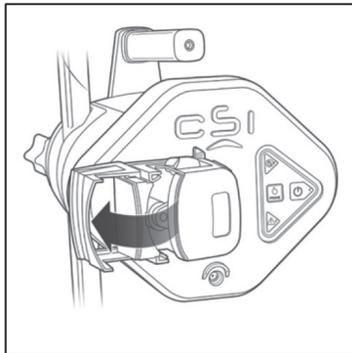

Figure 8. Open pump head cover.
- Open the pump head cover (see Figure 8).